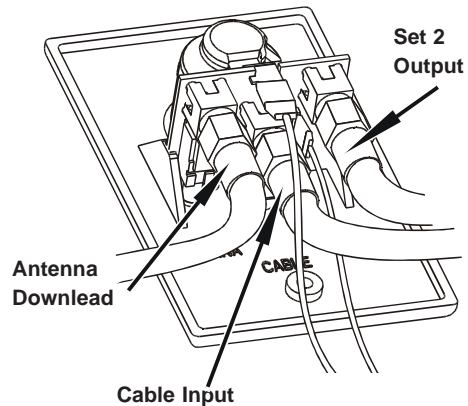

FIGURE 9
STEP 13: Install connectors on downlead, set 2 and cable input cables as shown on page 6. Attach downlead cable to jack on wall plate/power supply marked antenna as shown in Figure 9. Attach cable going to set 2 outlet to jack on power supply marked SET 2. Attach cable coming from cable input to jack on power supply marked CABLE.